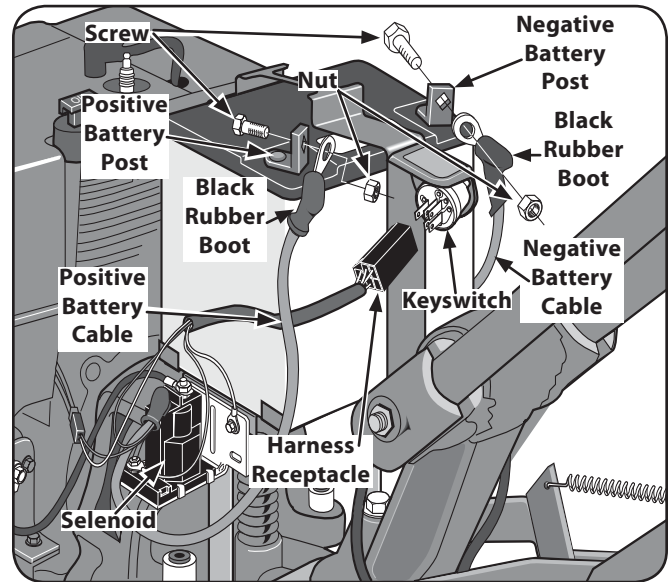

Figure 3-14
1. Before installing the battery and its hold-down clamp, insert the plastic wire harness receptacle into the prongs of the keyswitch located on the hold-down clamp. See Fig. 3-14.
2. Remove the ignition keys from the keyswitch and store them safely away. Do not insert the key into the keyswitch until you complete this section and read the Operation section. See Fig. 3-14.
3. Use a $\frac{5}{8}$ " long screw and $\frac{1}{4}$ -20 hex nut to connect the positive (+) battery cable to the positive (+) battery post. Make sure that this is the cable on the left side, with one end attached to the solenoid. See Fig 3-14.
4. Slide the black rubber boot completely over the battery post and cable connector. See Fig. 3-14.
5. Use a $\frac{5}{8}$ " long screw and $\frac{1}{4}$ -20 hex nut to connect the negative (-) battery cable to the negative (-) battery post and secure with screw and nut. See Fig. 3-14.
6. Slide the black rubber boot completely over the battery post and cable connector. See Fig. 3-14.